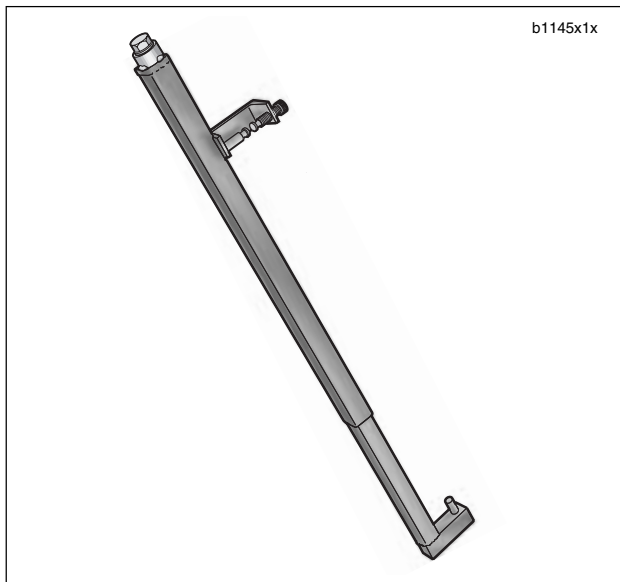

Figure 2-67. Fork Spring Compressing Tool (HD-45966)
6. See Figure 2-67. Move the fork assembly from the holding tool and compress fork in the FORK SPRING COMPRESSING TOOL.
8. Remove preload washer (4) and slider piston (5).
9. See Figure 2-67. Uncompress fork and remove from FORK SPRING COMPRESSING TOOL.